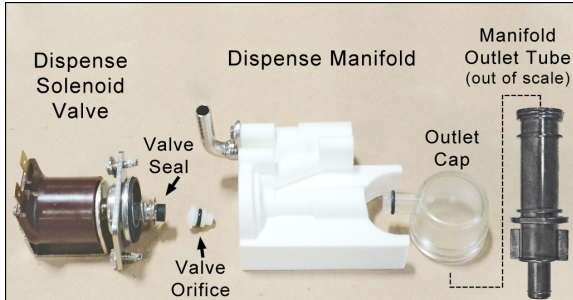

Figure 6-6 - Dispense Manifold Assembly
- 1) Remove the assembly-underside screws that secure the manifold (Fig. 6-6) to the baseplate.